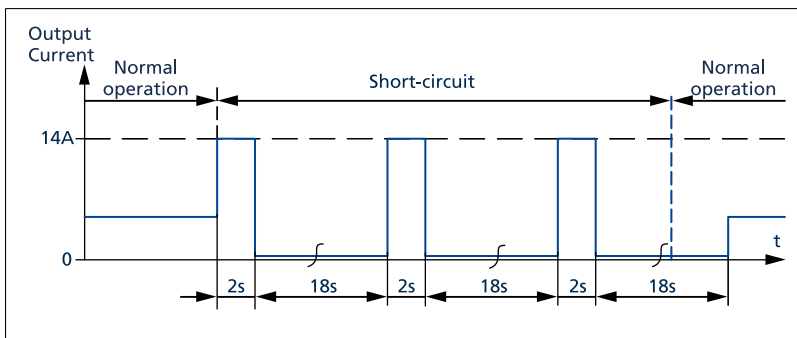

Fig. 6-3: Short-circuit on output, HiccupPLUS mode, typ.
3) At heavy overloads (when output voltage falls below 13V), the power supply delivers continuous output current for 2s. After this, the output is switched off for approx. 18s before a new start attempt is automatically performed. This cycle is repeated as long as the overload exists. If the overload has been cleared, the device will operate normally. See Fig. 6-3.